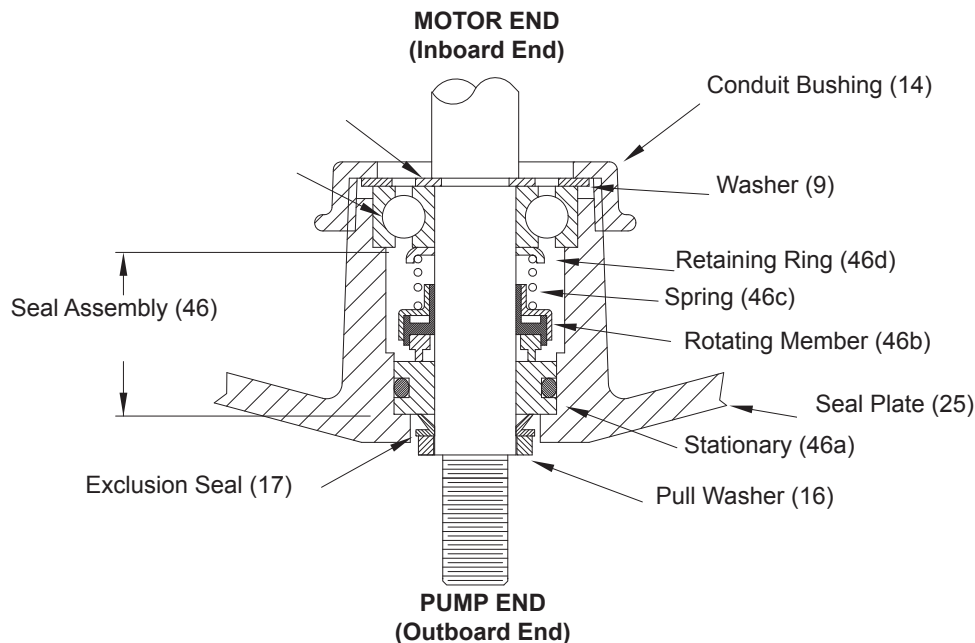

FIGURE 3
**Seal** - Remove rotating member (46a), spring (46c) and retaining ring (46d) from shaft. (See Figure 3). Examine all seal parts and especially contact faces. Inspect seal for signs of wear such as uneven wear pattern on stationary members, chips and scratches on either seal face. **DO NOT interchange seal components**, replace the entire shaft seal (46). If replacing seal, remove stationary (46a) from seal plate (25) by prying out with flat screwdriver.
**Bearing** - Examine bearing (47) and replace if required. If replacement is required, remove bearing (47) from motor shaft using a wheel puller. Washer (9), retaining ring (30) and conduit bushing (14) can now be removed from motor shaft.